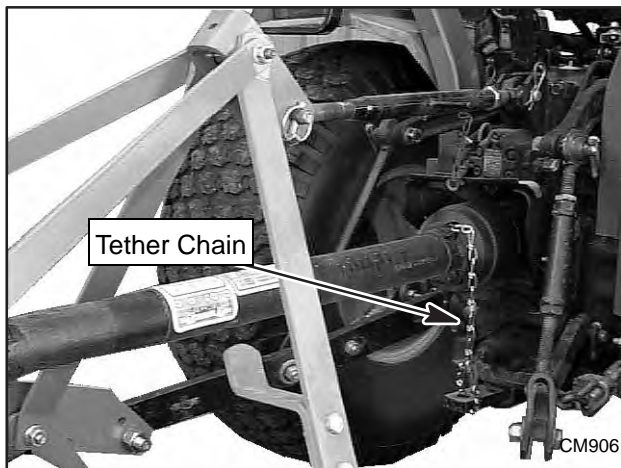

Figure 3 Attach Mower to Tractor
3. Attach tether chain to tractor drawbar (Figure 3).